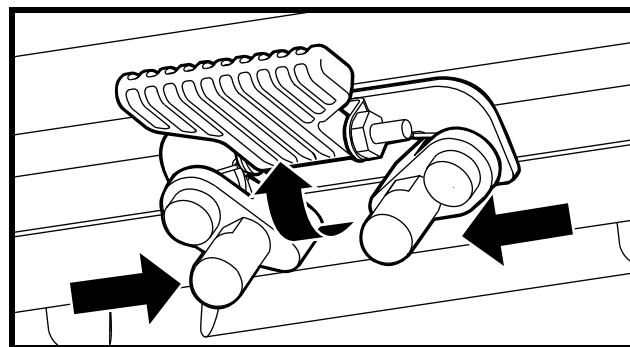

Figure 14. Seat Latch Safety
4. Flip up the seat latch safety. **See figure 14.**